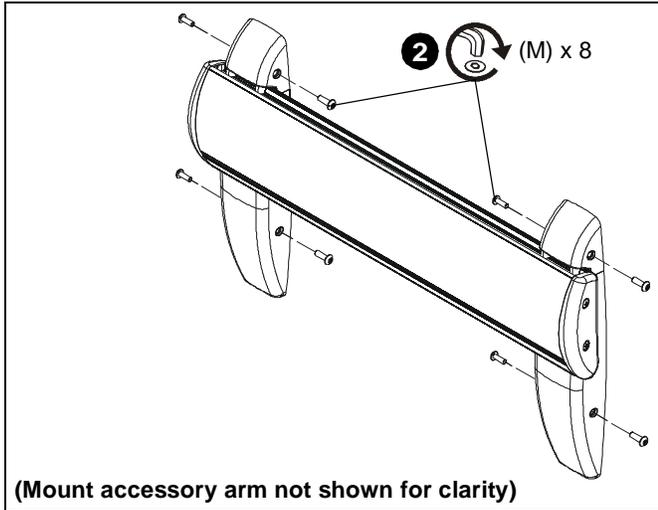

Figure 34
2. Install eight #8-32 x 1/2" button head security screws (M) into holes in wall bracket covers. (See Figure 34)